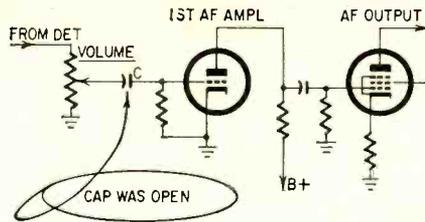

Fig. 7—Here an open capacitor caused weak sound.
**Conclusion:** Signal being attenuated between volume control and first af grid. Further checks revealed that capacitor C (Fig. 7) was open.